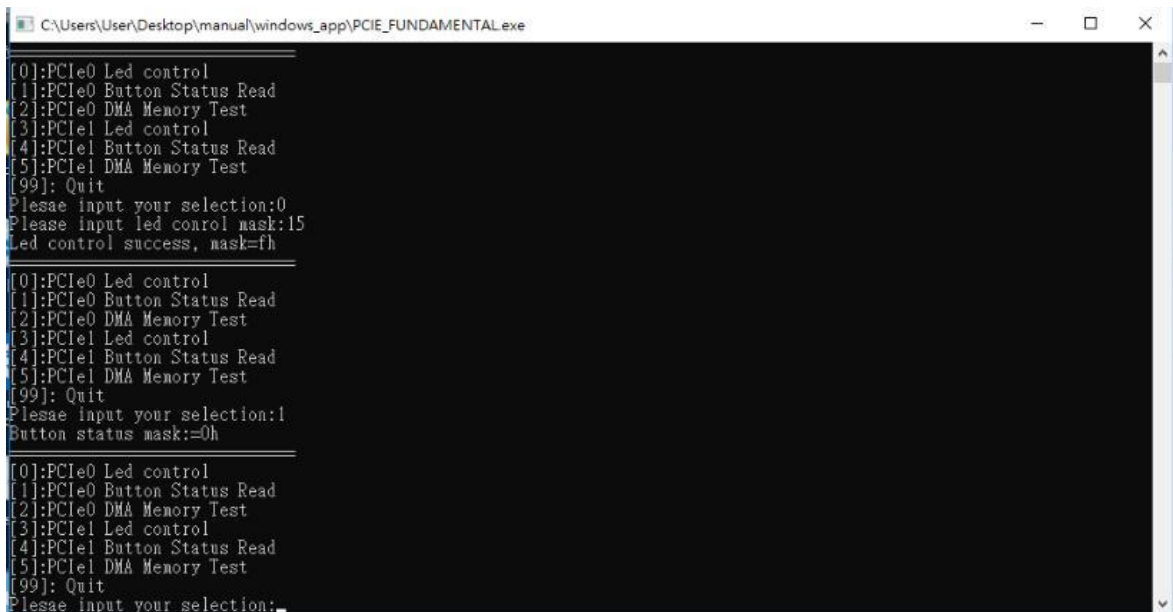

Figure 6-28 Screenshot of PCIe0 Button Status Report
- Type 1 followed by an ENTER key to select **PCIe0** Button Status Read item. The button status will be report as shown in **Figure 6-28**.